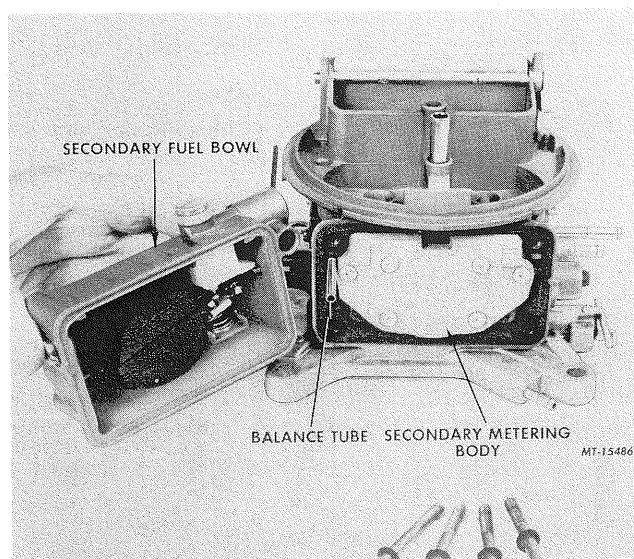

FIG. 34 Removal or Installation of Secondary Fuel Bowl (Model 4160)
14. Remove secondary fuel bowl from carburetor body. **Disassembly of the secondary fuel bowl is similar to the primary bowl. The fuel inlet baffles are not interchangeable (Figure 34).**